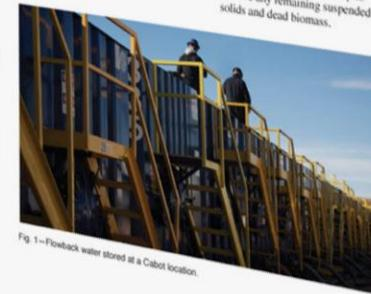

Fig. 1—Flowback water stored at a Cabot location.
- All company owned, rented or used equipment shall have a LEVEL II & Mag-Particle inspection at each testing interval, as referenced in **FIGURE 1: LEVEL II INSPECTION REQUIREMENTS.**
Flowback fluid used for the project was taken at random from Cabot tanks (Fig. 1). Cabot's goal going into the project was to conduct the pilot fluid reuse using 100% flowback fluid as the job; no fresh water to prepare carrier fluid for the final fluid. The treatment was placed with a total of 5,300 sacks of propping agent consisting of natural fine sand, 300 sacks of 100-mesh sand, and 5,000 sacks of 40/70 white sand placed over two intervals. Initial 30-day production from the well was among the highest within Cabot's development area in the eastern Marcellus to date.